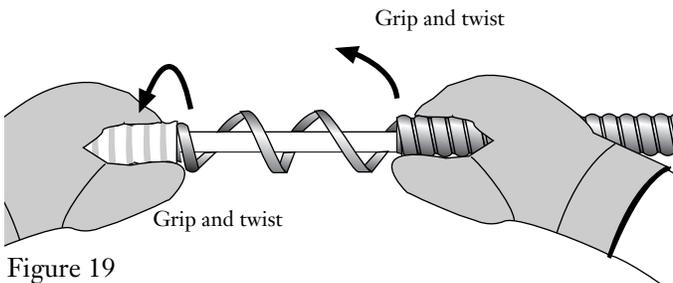

Figure 19
5.8 FIRMLY grip the cable on both sides of the C mark. While maintaining a firm grip, twist the cable in opposite directions to make the armor expand and the separate (Figure 19).